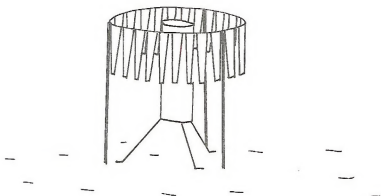

Figure 5. A commercially built wind shield can take the place of natural protection.
5. If none of the above is available, a commercial wind shield should be considered for the gage. (Figure 5)